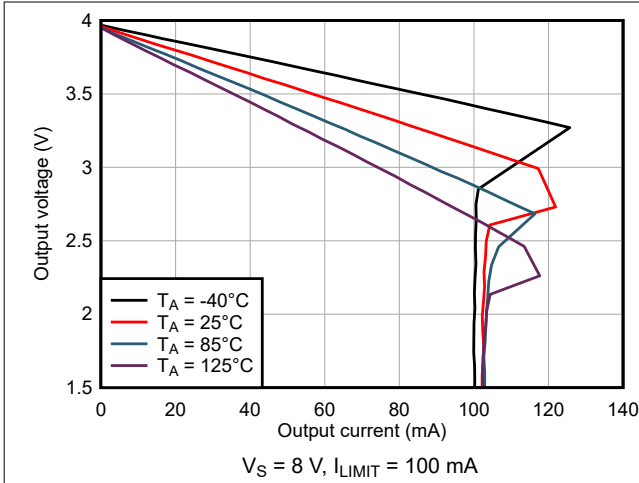
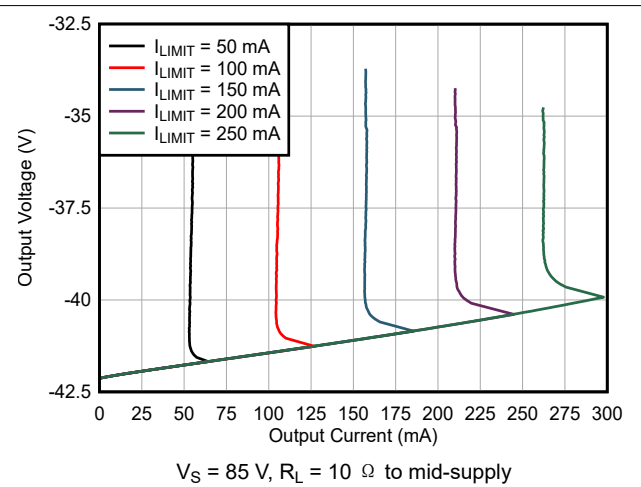

图 6-19. Output Voltage vs Output Sourcing Current
图 6-34. Output Voltage vs Output Sinking Current
- (3) Proper output swing headroom is necessary to maintain current limit accuracy; see 图 6-19 to 图 6-34.